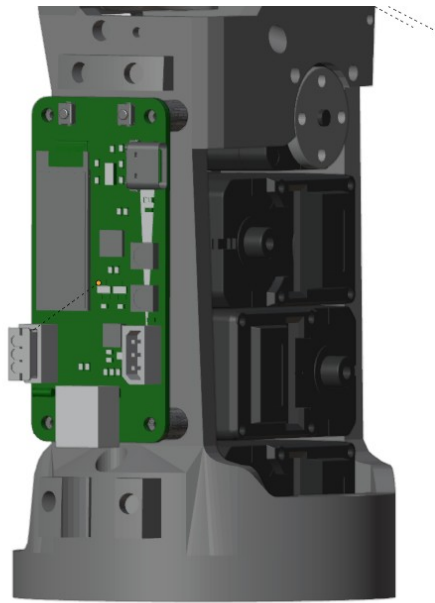

Figure 5.12: Logic board installed
1. Install the logic board onto the skeleton as shown in figure 5.12, using 4 M2 self-tapping screws, 6 mm long.